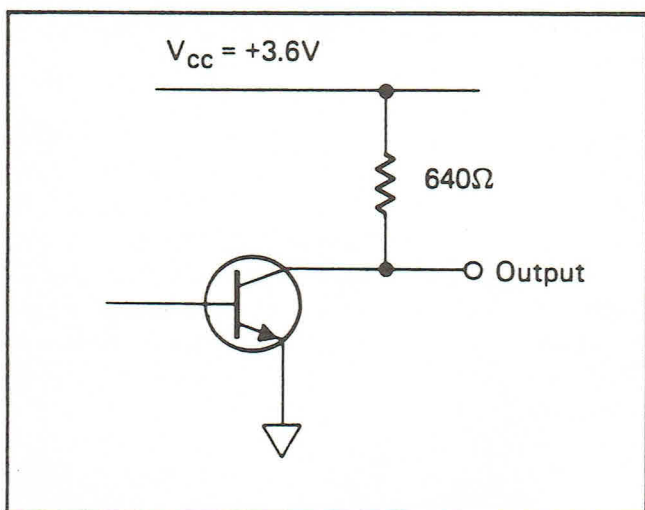

Figure 3.1 - Typical Output Circuit
3.4 The voltage level of the positive true output is +3.6 volts delivered through a 640Ω resistor. The false level is near zero volts (figure 3.1).